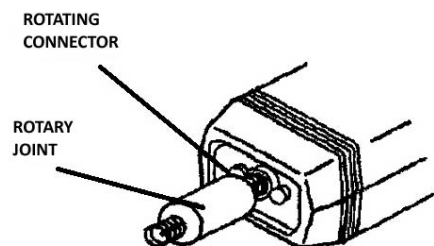

Figure 11. RF Rotary Joint Mounted on Probe
3. Screw the rotating end of the Rotary Joint clockwise onto the probe's SMA Connector (see Figure 11).